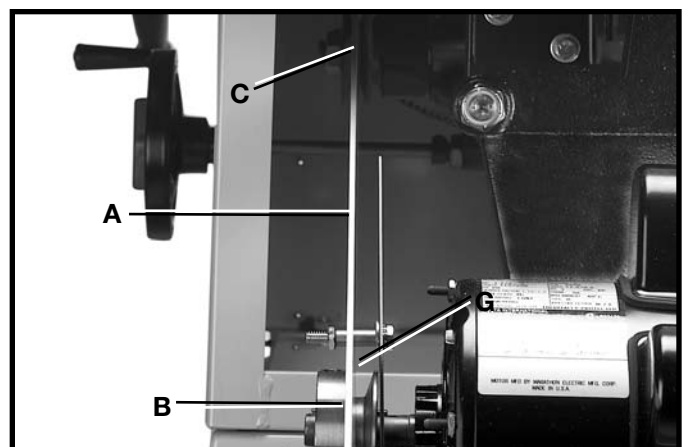

Fig. 19
5. Position belt and pulley guard bracket (G) Fig. 19, so the motor pulley (B) is centered and through the hole in the belt and pulley guard bracket, as shown.
6. Using a straight edge (A) Fig. 19 align the motor pulley (B) with the arbor pulley(C). Tighten the motor pulley set screw and the four hex nuts that fasten the motor to the motor mounting plate.